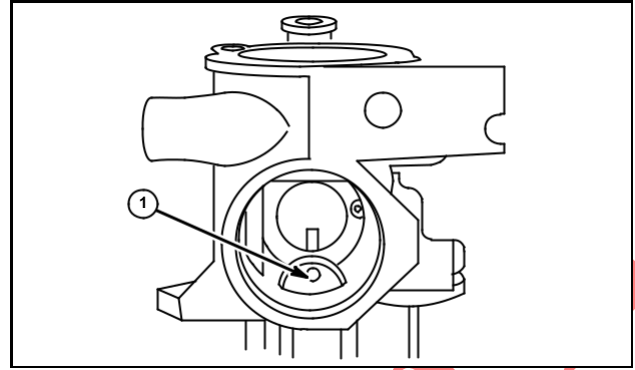

Fig. 75
NOTE: If engine is operated at high altitudes, performance may decrease. If poor performance is experienced remove main air bleed jet (1), Fig. 75.
2. Using a #3-48 UNC tap, tap into main air bleed jet, Fig. 75.